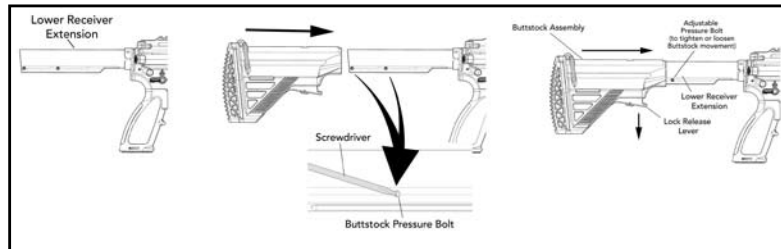

Fig. 37 – Buttstock reassembly
- b. Two small set screws are located on the bottom of the receiver extension (buffer tube). These set screws are provided to eliminate any play that may develop between the buttstock and the extension. The left hand side of the set screw features a detent surface that engages the buttstock. The right hand surface features a cut to accommodate a small straight slot screwdriver. Rotating the set screws clockwise will tighten the detents to the buttstock; rotating the setscrew counter clockwise will loosen the buttstock. Using a straight slot screwdriver, rotate the set screws clockwise using quarter turns and adjust until the detents engage the buttstock but do not hinder removal or installation (Fig. 37)